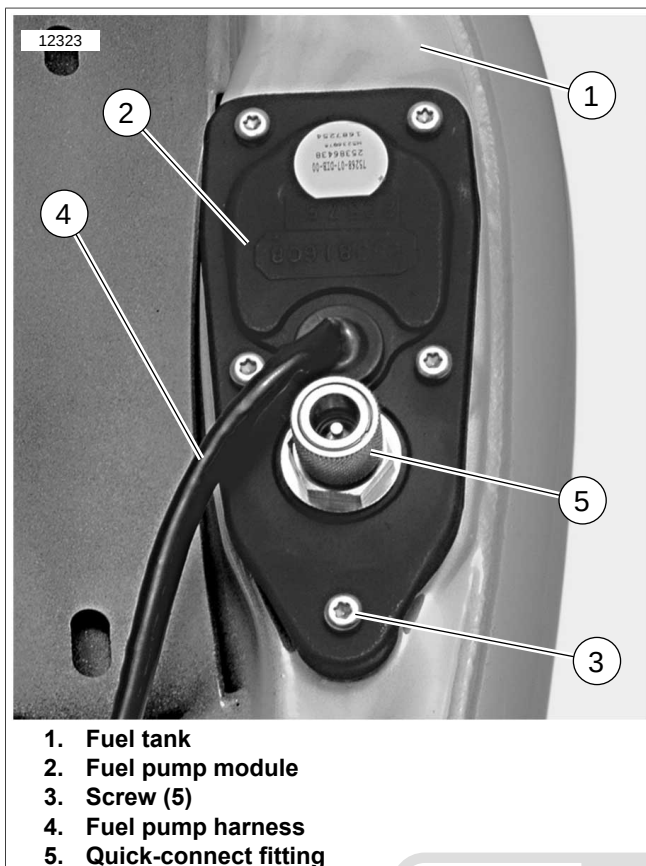
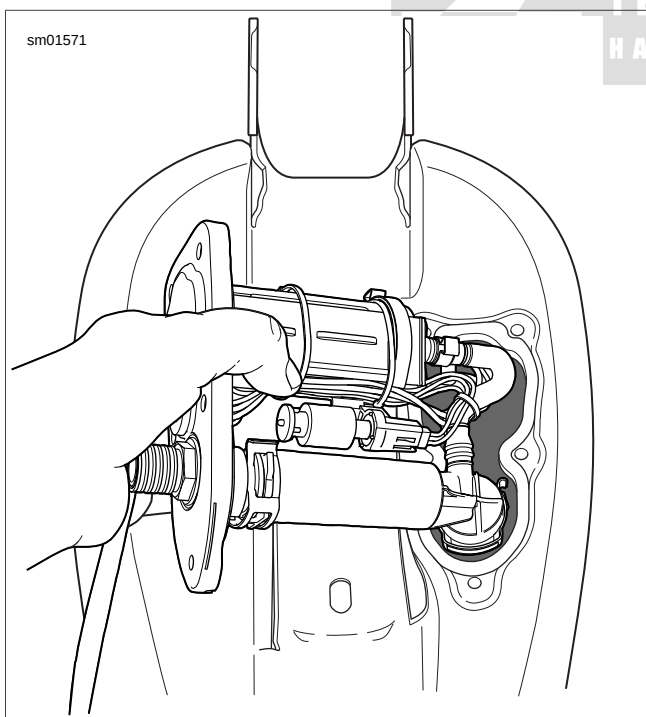

Figure 4-75. Fuel Pump Module: All Models
Figure 4-76. Removing/Installing Fuel Pump Module: All Models
5. See Figure 4-75. Lay fuel tank upside-down on a soft cloth.
6. Remove five screws (3).
7. Carefully lift fuel pump module out of fuel tank. See Figure 4-76. To facilitate removal, tilt module when it is almost completely free of fuel tank.
- See Figure 4-76. Carefully install fuel pump module into fuel tank.